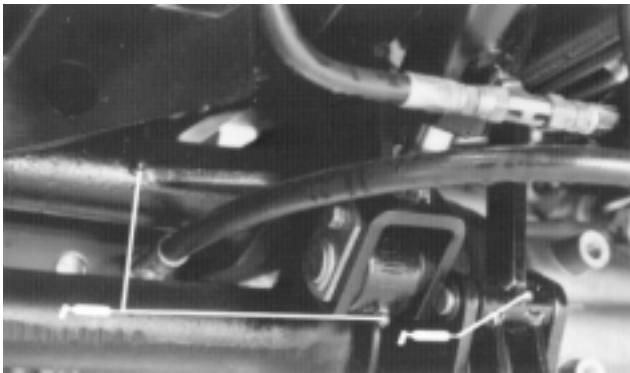
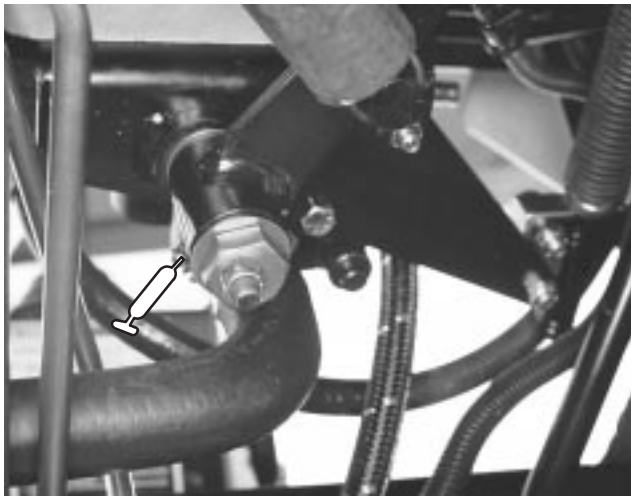
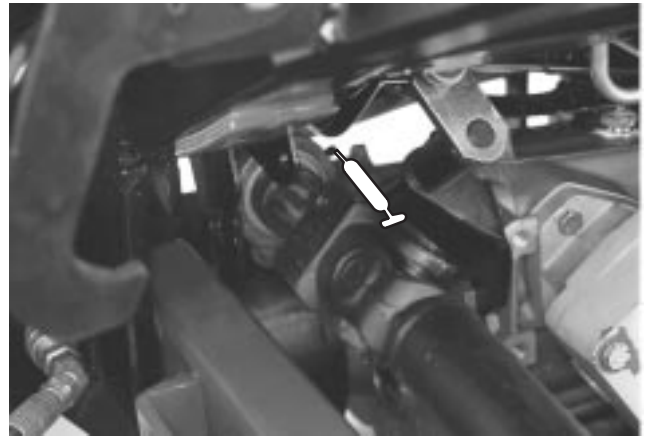

Figure 22
Figure 27
Figure 28
The grease fittings that must be lubricated are: lift arm pivot (2), lift cylinder (4), brake arm pivots (2) (Fig. 22); brake pivot (1), brake pivots (2) (Fig. 23); traction pedal pivot (1) (Fig. 24); engine to pump drive shaft (2) (Fig. 25 and 26); traction adjuster (1) (Fig. 27); P.T.O. Bearing (Fig. 28).